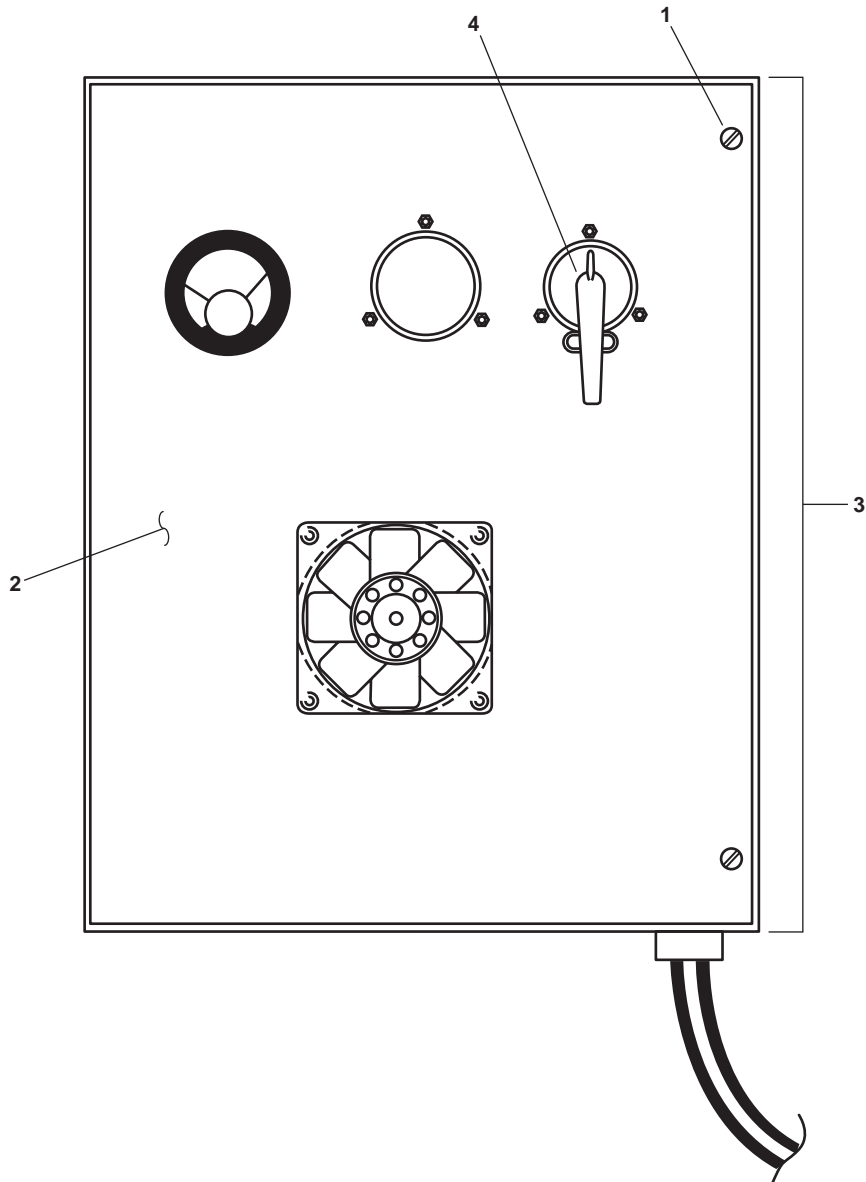
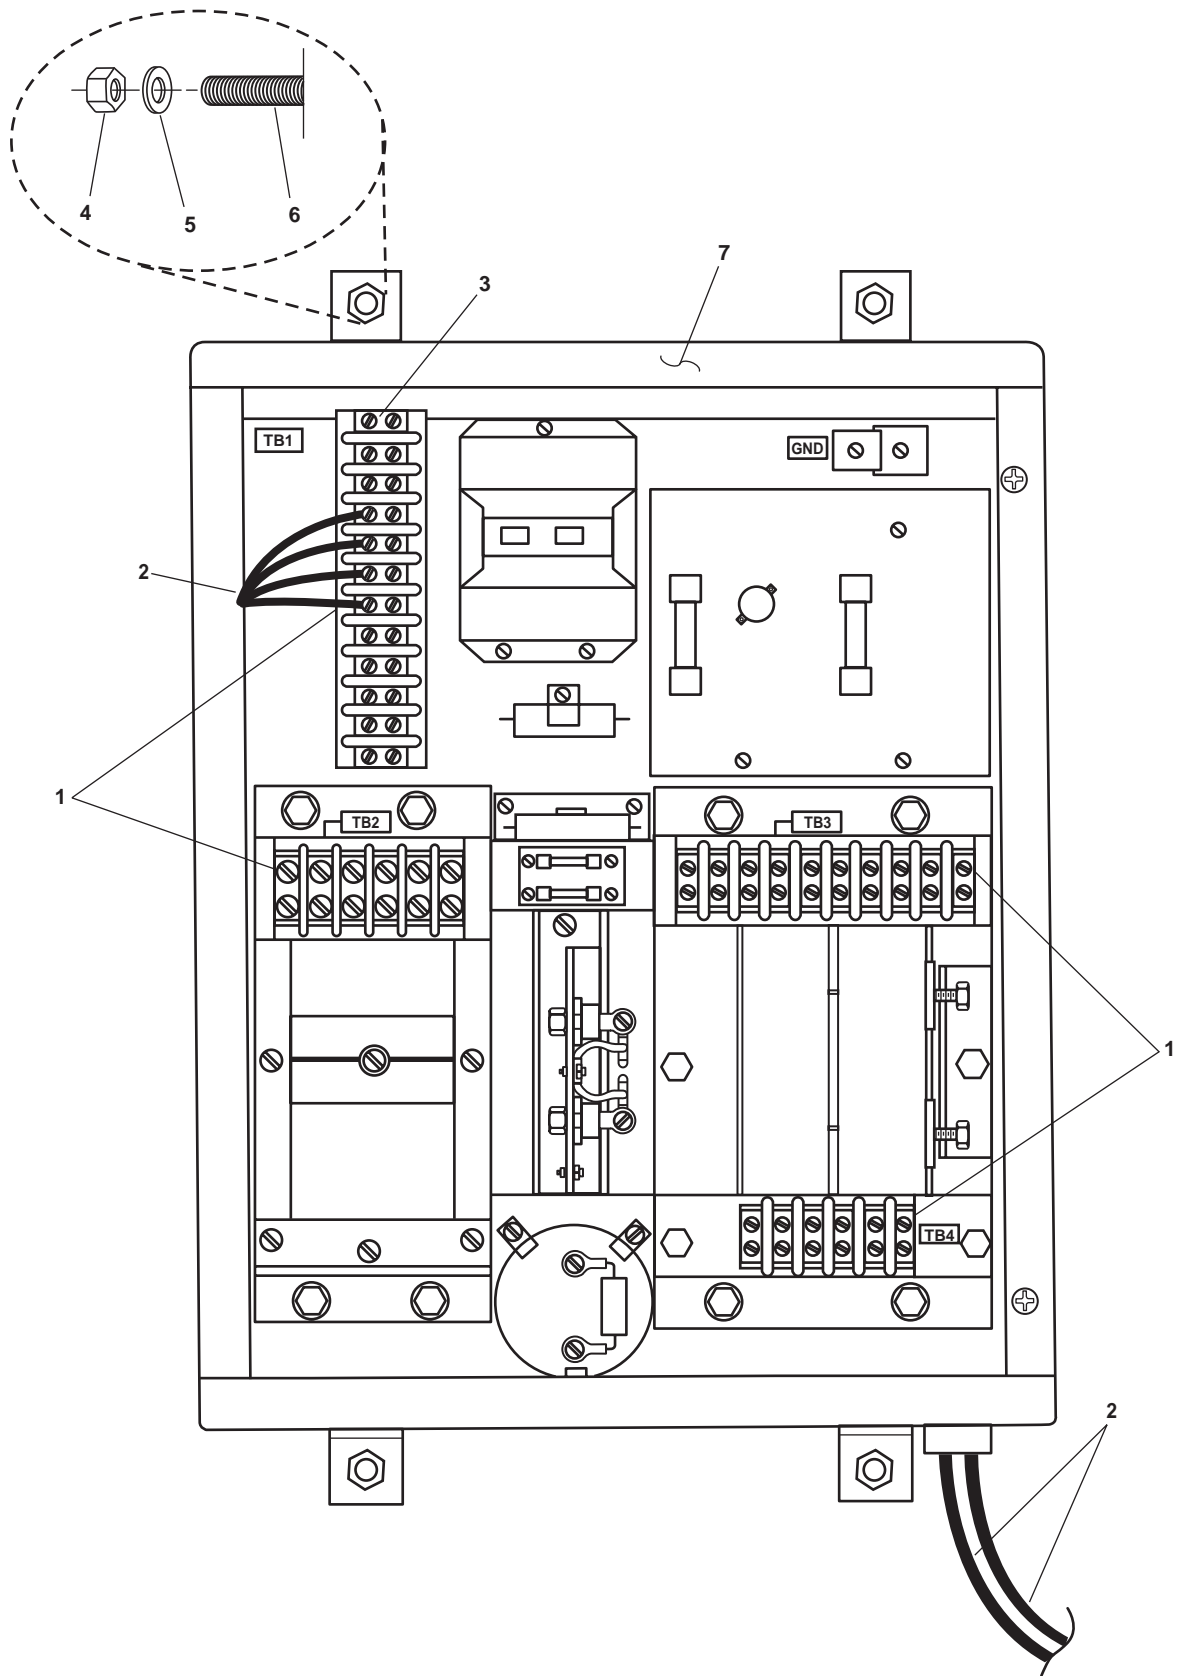

Figure 1. Searchlight Power Supply (External)
Figure 2. Searchlight Power Supply (Internal)
2. OPEN the door (figure 1, item 2) of the power supply (figure 1, item 3).
3. Use a multimeter to check for voltage at the terminal blocks (figure 2, item 1). If voltage is present, ensure that the proper circuit breaker is secured, locked out, and tagged out (FM 55-502). If no voltage is present, continue with the procedure.
4. Label and remove the wiring (figure 2, item 2) from terminal block 1 (figure 2, item 3).
5. Remove the wiring (figure 2, item 2) from the power supply (figure 1, item 3).
6. Remove the two nuts (figure 2, item 4) and the two flat washers (figure 2, item 5) from the two studs (figure 2, item 6).
7. Remove the power supply (figure 2, item 7) from the two studs (figure 2, item 6).
1. Position the power supply (figure 2, item 7) on the two studs (figure 2, item 6) and secure it with the two nuts (figure 2, item 4) and the two flat washers (figure 2, item 5).
2. Install the wiring (figure 2, item 2) in the power supply (figure 1, item 3).
3. Connect the wiring (figure 2, item 2) to terminal block 1 (figure 2, item 3) using the labels from step 4 of Removal as a guide. Remove the labels.
4. Close the door (figure 1, item 2) to the power supply (figure 1, item 3) and secure it with the two captive screws (figure 1, item 1).